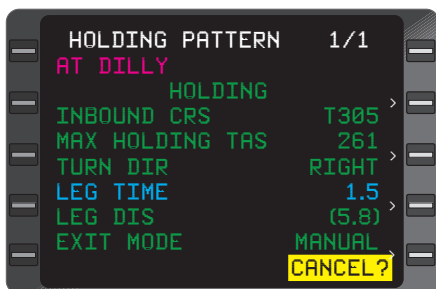

Figure 2-73
- **HOLDING:** indicates the system has entered the Holding Pattern. (Figure 2-73)
The inbound holding course in whole degrees. This field can be True or Magnetic according to the display mode selected by the TRUE/MAG switch input. A **T** appears if in the True mode (Figure 2-73). The **T** field will be blank if the system is Magnetic mode.
This field is computed based on configuration module max holding indicated airspeed and worst case winds. It represents the maximum true airspeed in the holding pattern that will assure that the aircraft remains in protected airspace. (Figure 2-73)
**RIGHT** indicates the standard default holding pattern turn direction. The non-standard **LEFT** turn can be accessed using the **BACK** Key when the cursor is over this field. (Figure 2-73)
Holding Pattern inbound leg time in minutes and tenths (1.0 to 9.9). (Figure 2-73)
Holding Pattern inbound leg distance in nautical miles (1.0 nm to 50.0 nm). (Figure 2-73)
The **MANUAL** default indicates the system will stay in the holding pattern indefinitely. Using the **BACK** Key with the cursor over this field **AUTO** can be selected if the **ENTER** key is pressed. The system will then execute a holding pattern entry and exit the next time crossing the fix waypoint. (Figure 2-73)
Used to cancel a holding pattern. (Figure 2-73)